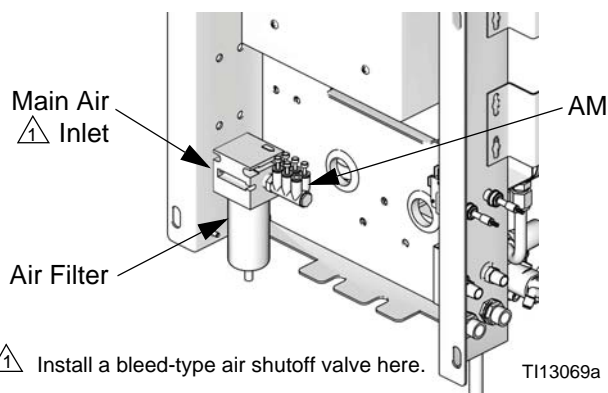

FIG. 4. Wall Mount Air Supply Inlet
2. Install a bleed-type air shutoff valve into the control air filter inlet on Wall Mount Fluid Station. FIG. 4.
Use a separate purge air supply line for the air purge valve (APV). Do not connect the air purge valve to the unit's main air supply or to the air manifold (AM, FIG. 4), to avoid contaminating the solenoids, air logic lines, or unit's main air supply with fluid if the air purge valve (APV) and check valve (CV) fail.